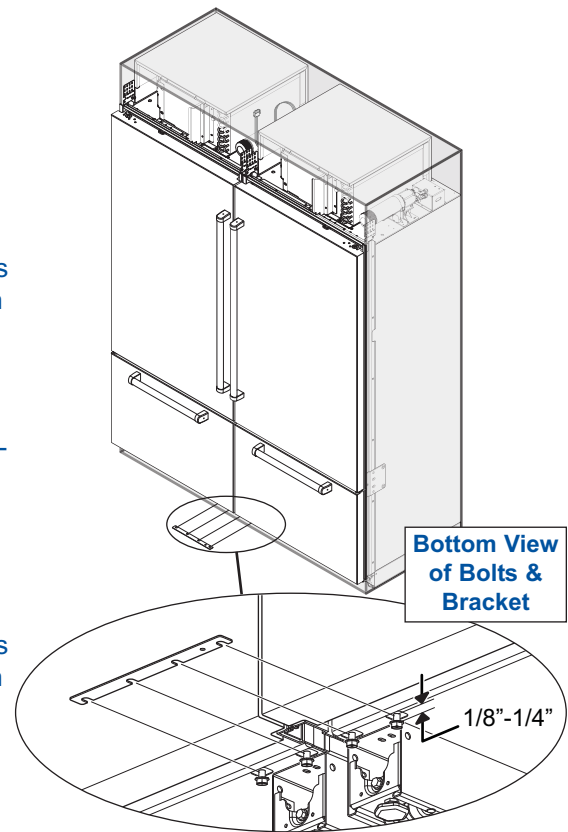

Figure 8. Join Units Together at bottom
- ii. Align the four notches of the Dual Installation Bottom Bracket with the four bolts at bottom adjoining corners of the appliances, push the bracket into position, then tighten the bolts (See Figure 8).
- i. Using a 1/2" wrench, install four 5/16" x 3/4" Thread-Forming Screws (2 each unit) at bottom adjoining corners of the appliances, but DO NOT tighten them, instead leave a 1/8" (3mm) to 1/4" (6mm) gap between bolt heads and unit shell bottom (See Figures 8).
- ii. Align the four notches of the Dual Installation bottom Bracket with the four bolts at bottom adjoining corners of the appliances, push the bracket into position, then tighten the bolts (See Figures 8).